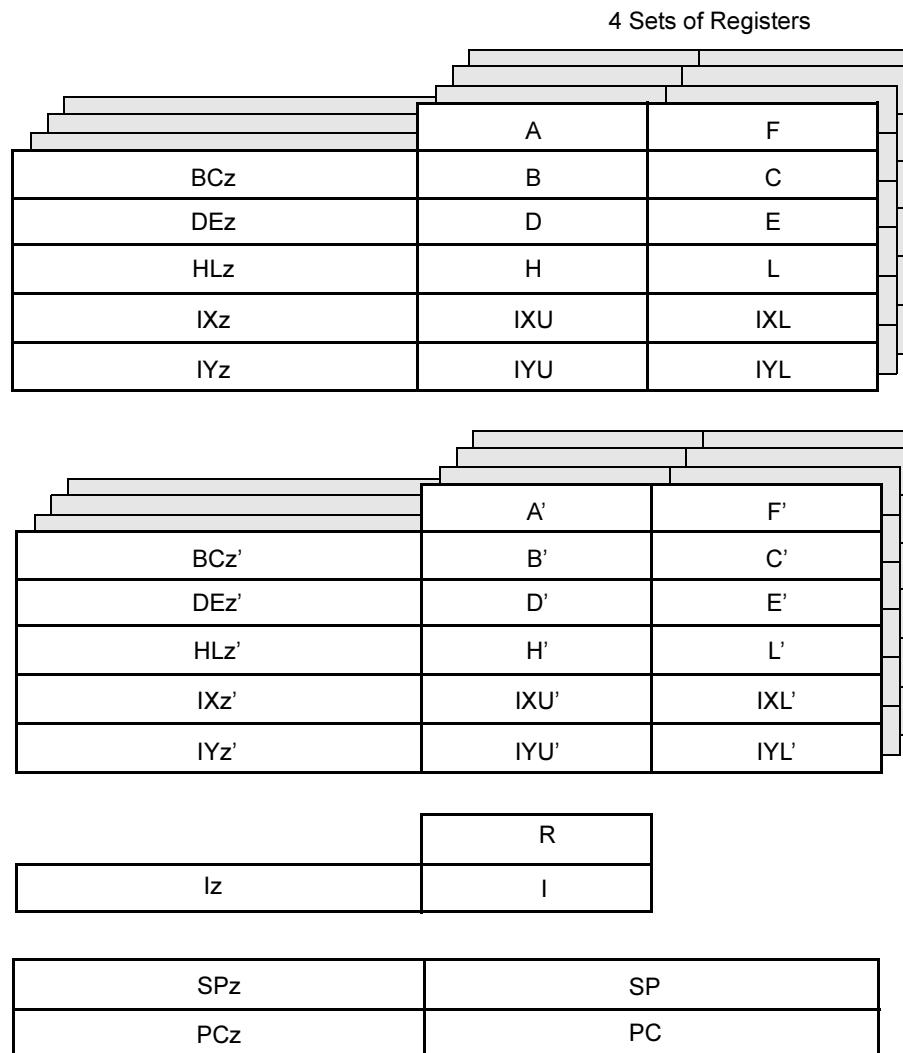

Figure 22. 380C Processor Core Register Set
The CPU register space, depicted in Figure 22, consists of all of the registers in the CPU register file. These CPU registers are used for data and address manipulation, and are an extension of the Z80 CPU register set. Four sets of this extended Z80 CPU register set are present in the 380C. Access to these registers is specified in the instruction, with the active register set selected by bits in the Select Register (SR) in the CPU control register space.